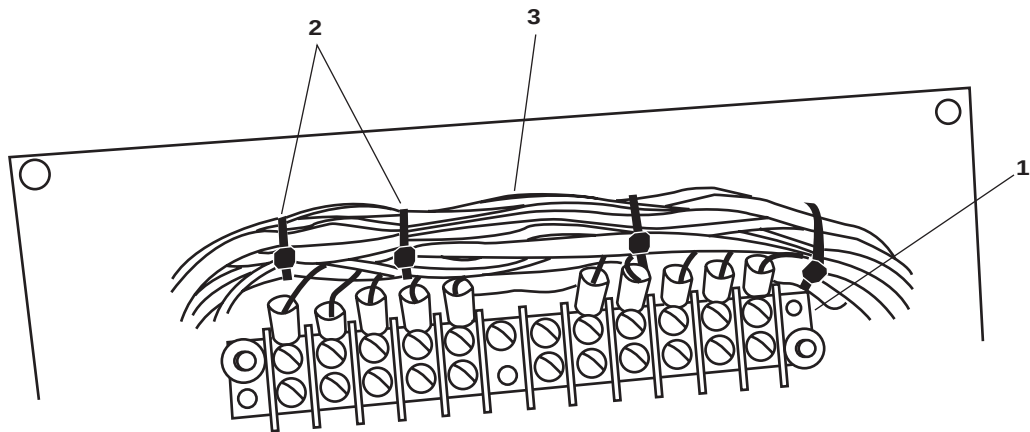

Figure 11. Pilothouse Alarm Console (Back Side)
3. Use a multimeter to check for available voltage at the terminal block (figure 11, item 1). If voltage is present, ensure that the proper circuit breakers are secured, locked out, and tagged out (FM 55-502). If no voltage is present, continue with the procedure.
4. Cut the wire ties (figure 11, item 2) from the wire harness (figure 11, item 3) as necessary to determine which wires lead to the defective LED.
5. At the terminal block (figure 11, item 1), label and disconnect the wiring (figure 11, item 3) to the defective LED.
3. Connect the wiring (figure 11, item 3) at the terminal block (figure 11, item 1) and secure the wire harness (figure 11, item 3) using new wire ties.